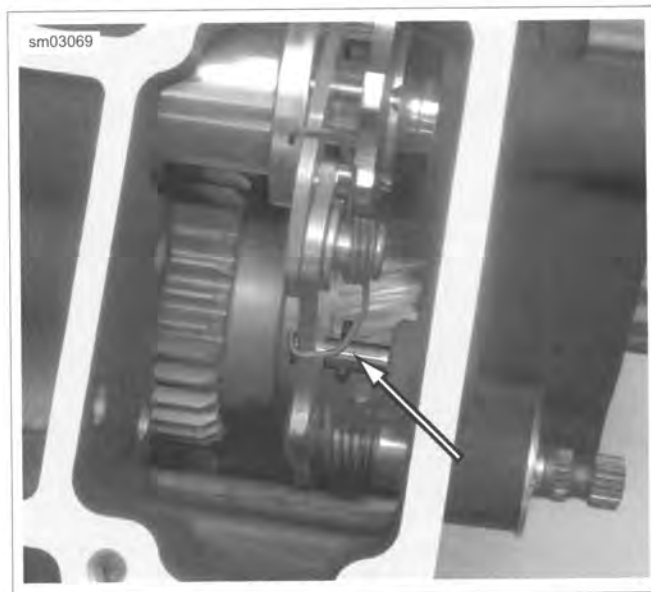

Figure 6-61. Shifter Shaft Lever Spring
6. See Figure 6-61. Verify that pin sits inside shifter shaft lever spring.